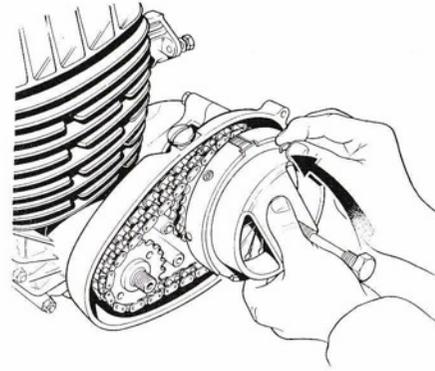

Fig. 6 Compressing clutch diaphragm spring, and using pliers to pinch circlip ends together whilst working the circlip free of the housing groove.
- 4 Compress the diaphragm spring as shown in Fig. 6, sufficiently to allow the spring to rotate in the housing.